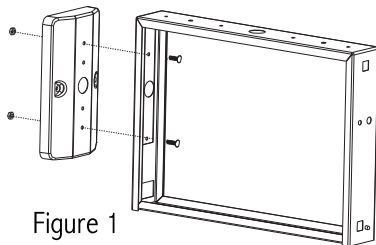

Figure 1
2. Remove the (3) KO's in either the side (for end wall mount) or top (for ceiling mount) of the fixture that lines up with the same holes on the CANOPY/J-BOX COVER. (Note: For CEILING MOUNT, you must remove the INTERNAL TRANSFORMER COVER on the inside top of the fixture. Please re-insert after installation.)
3. Using the (2) 1/2" long 8-32 screws and lock nuts, attach the canopy to the proper area of the exit sign (as shown in Figure 1).